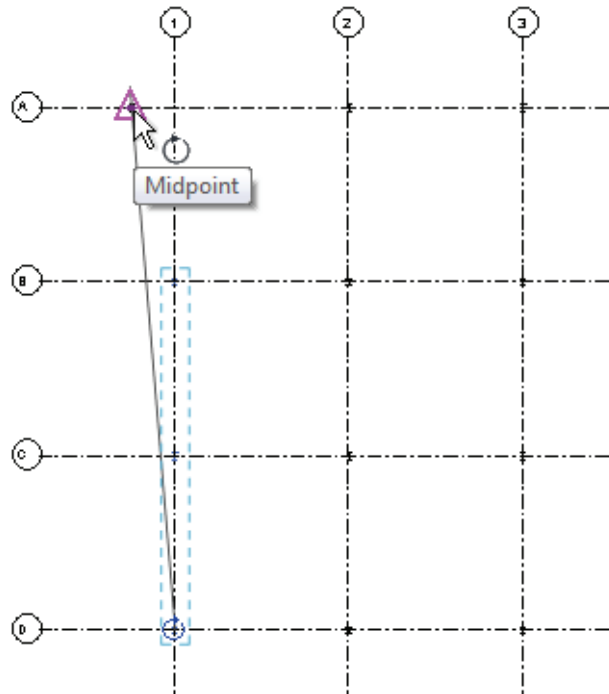

Figure 5–13
6. To finish rotating, select the midpoint of the column you moved earlier as shown in Figure 5–13.